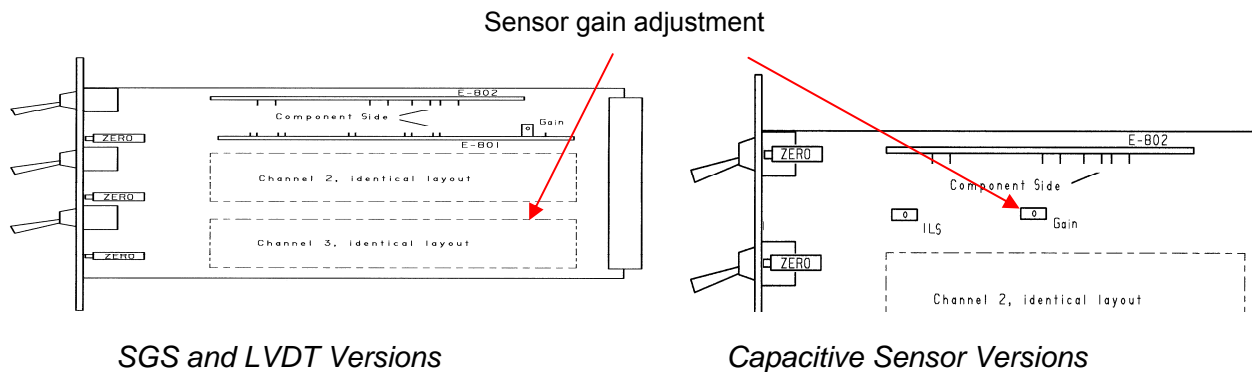

Fig. 6: Sensor gain adjustment location
- 8 Scan the voltage at CONTROL INPUT from 0 V to +10 V and read the PZT displacement using the external gauge. With +10 V the external gauge should show the PZT at about nominal expansion. Adjust with the sensor gain trim potentiometer (Fig. 6). Sensor gain is now close enough to allow switching servo ON.
- 11 Adjust the PZT position to the nominal expansion value using the sensor gain adjustment (Fig. 6) from step 8. Now, because servo ON, the sensor monitor value will not change!